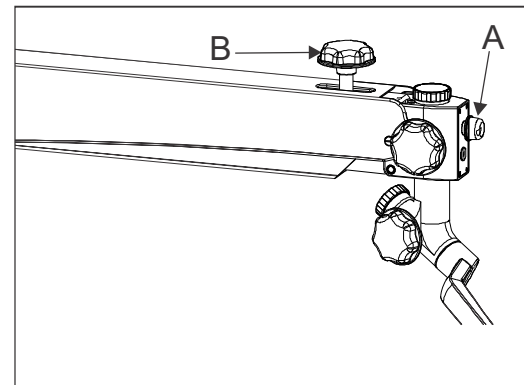

Fig. 10
It is located in front of the suspension arm shown as (A) in Fig. 10. Brightness of field of view can be adjusted as per user comfort using intensity control knob.
This knob helps you to lock the movement of swivel arm at the desired position after initial focusing of the attendance area by turning it clockwise, knob is shown as (B) in Fig. 10 .